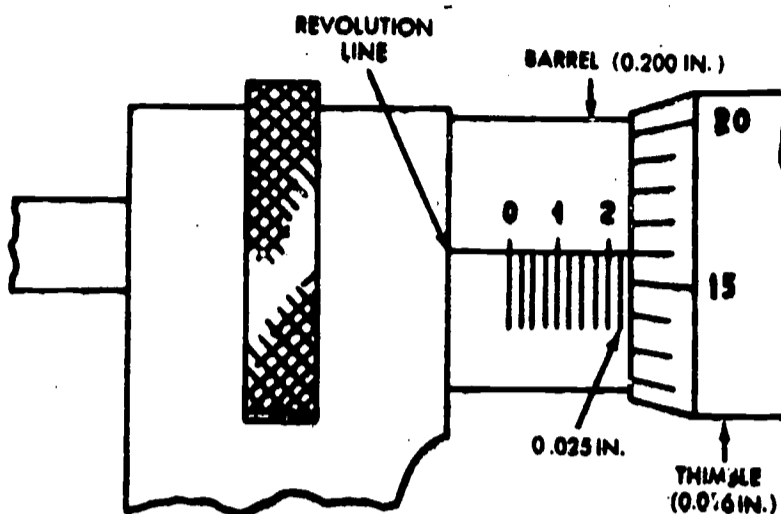

Fig. 9 Reading standard micrometer scale.
READING A MICROMETER is only a matter of reading the micrometer scale, or counting the revolutions of the thimble and adding to this any fractions of a revolution. The micrometer screw has 40 threads per inch. This means that one complete and exact revolution of the micrometer screw moves the spindle away from or toward the anvil exactly 0.025 inch. The lines on the barrel, Figure 9, conform to the pitch of the micrometer screw, each
line indicating 0.025 inch, and each fourth line being numbered 1, 2, 3, and so fourth. The beveled edge of the thimble is graduated into 25 parts, each line indicating 0.001 inch, 1/25 of the 0.025 inch covered by one complete and exact revolution of the thimble. Every fifth line on the thimble is numbered to read a measurement in thousandths of an inch. Read measurement shown in Figure 9 as indicated in (1) through (4) below.